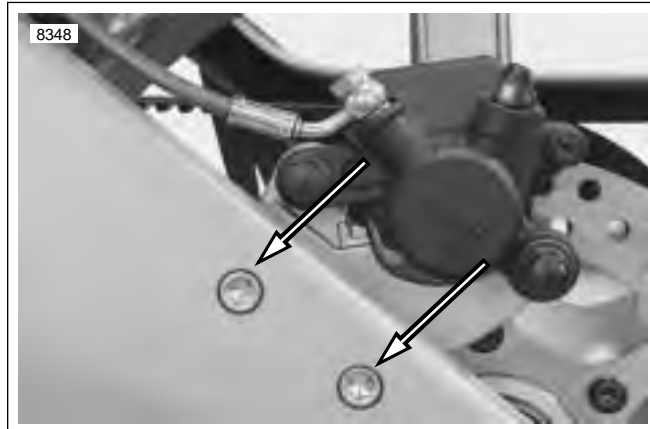

Figure 2-21. Rear Brake Caliper Carrier Fasteners
2. See Figure 2-21. Remove caliper carrier from swingarm by removing caliper carrier fasteners. See 2.15 REAR BRAKE CALIPER.